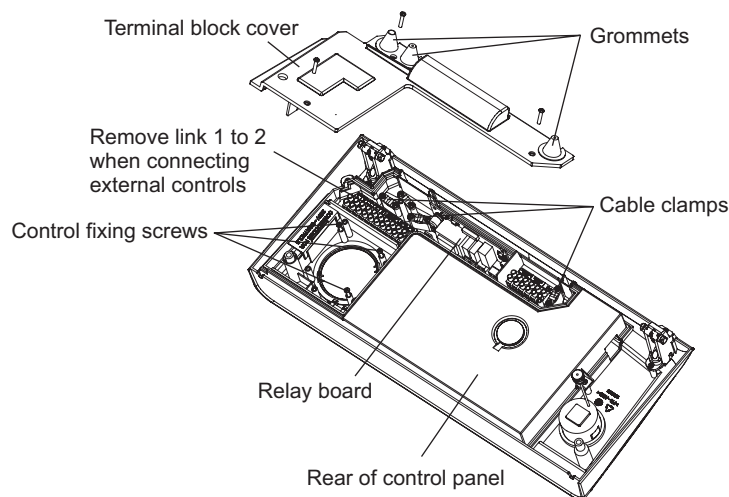

Fig. 24
4.11 FIT ALPHA CONTROLS (standard 240 V clock option) - Fig. 24